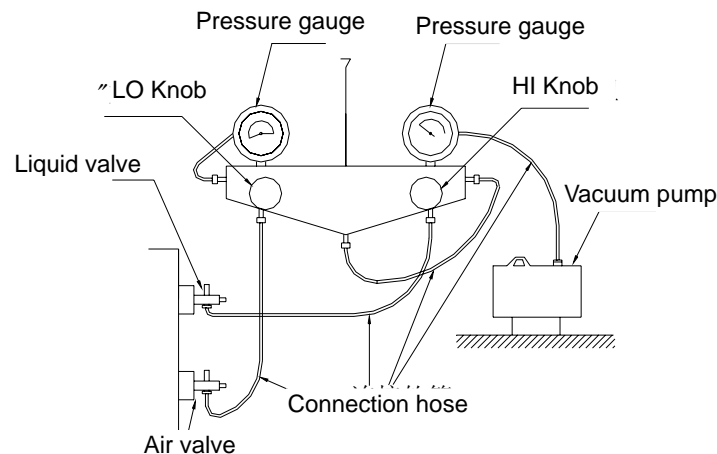

Fig.11-20
- g) Open the core of liquid valve and gas valve to full (See Fig.11-20).
- i) If permitted, it is best to use a vacuum pump to expel the air out of unit from the valve. See Fig.11-20.